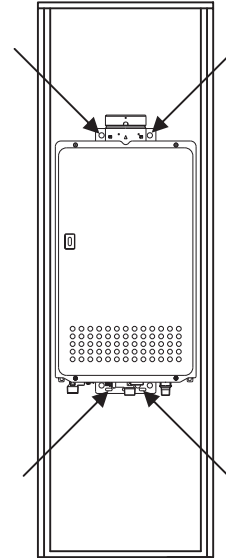

Figure 3: Locations of mounting screws.
- Mount the heater to the recess box by sliding the mounting brackets over the supplied screws as shown in Figure 3. Secure the heater to the box using the nuts and washers supplied in the installation kit (IK-RB-1).